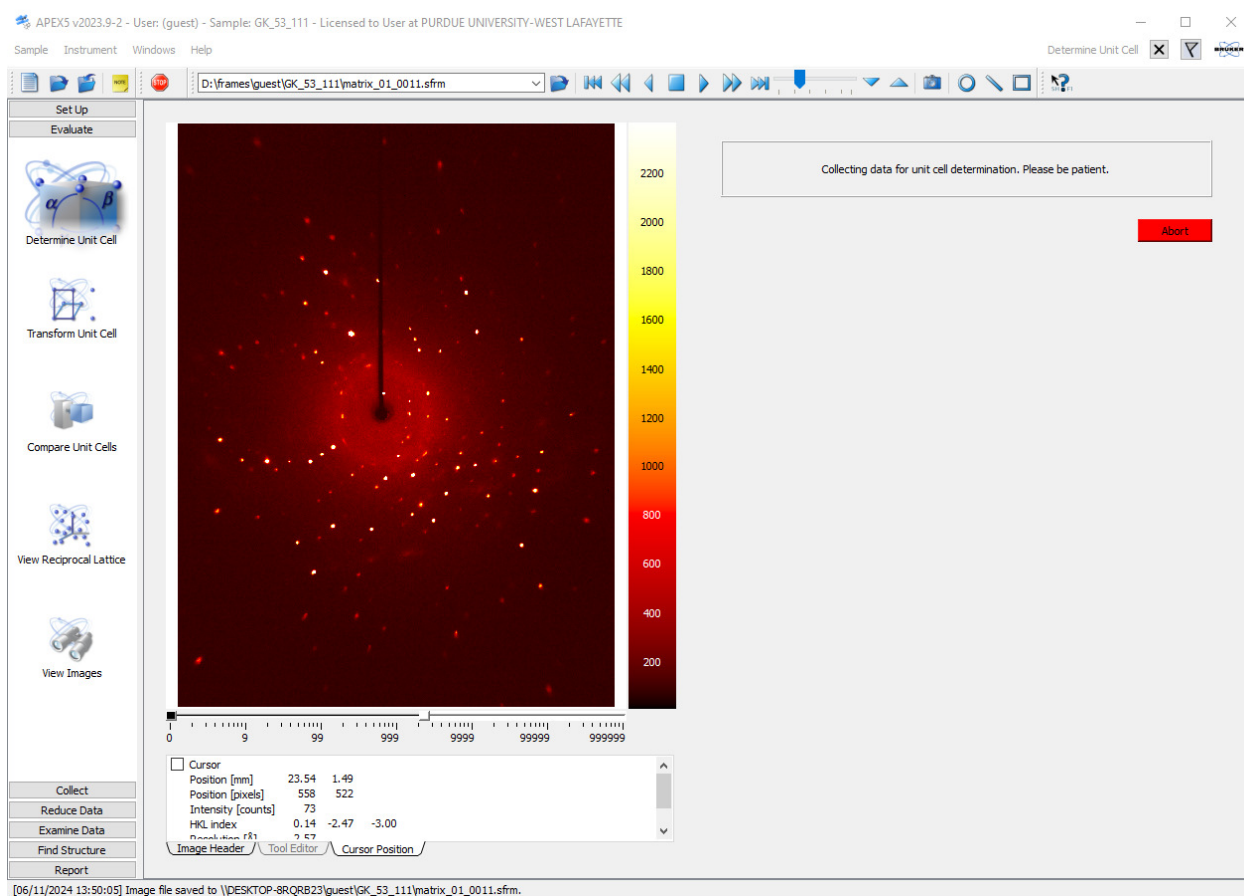
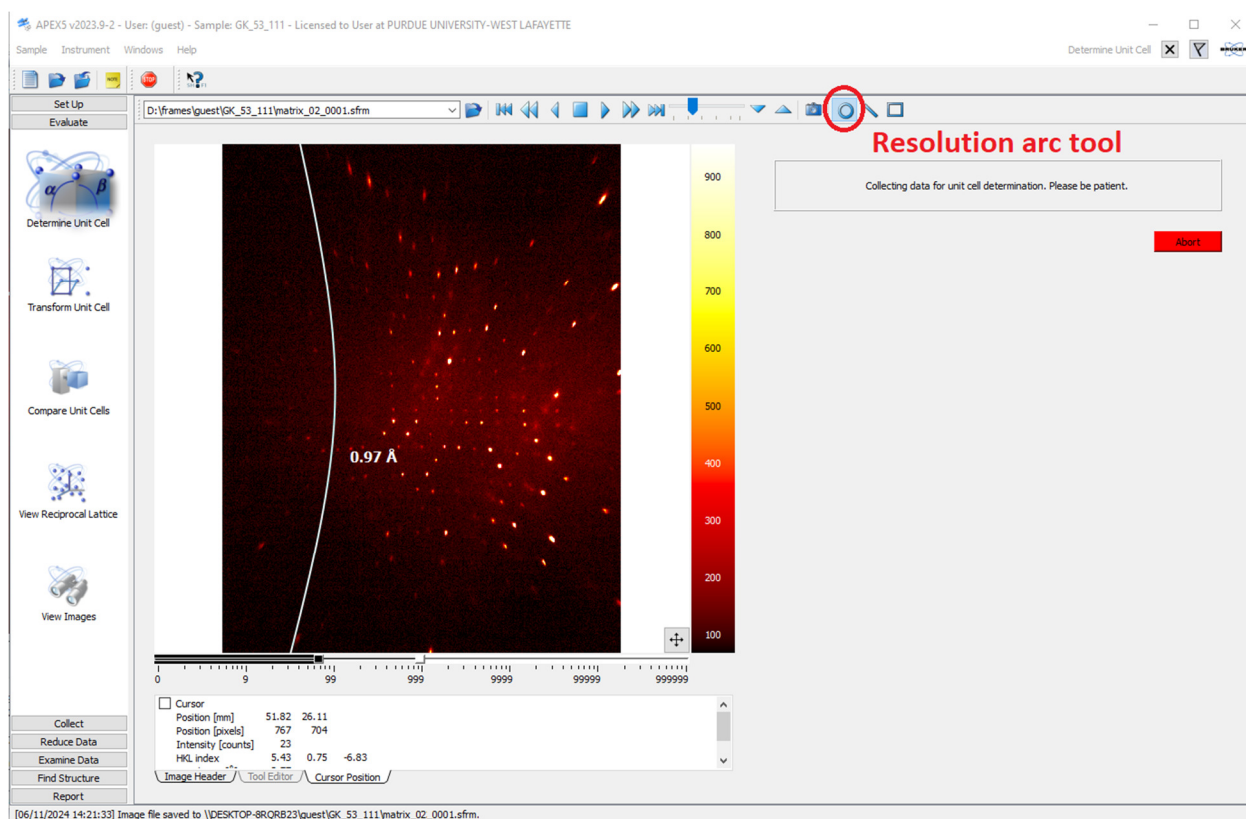

Figure 11, Unit Cell window with the first (low angle) sweep running.
Figure 12, Unit Cell window with one of the high angle sweeps running and resolution arc tool.
- The first sweep will be at low angle, with the beam stop visible at the center (Figure 11). The second and third run (Figure 12) will be at high angle. Make sure that your specimen diffracts to sufficiently high angle. Use the resolution arc tool (Figure 12) to check the resolution limit. Only samples that show at least some diffraction above ca. 0.9 \AA (with ten second exposures) are likely to meet the IUCr requirements for publication.